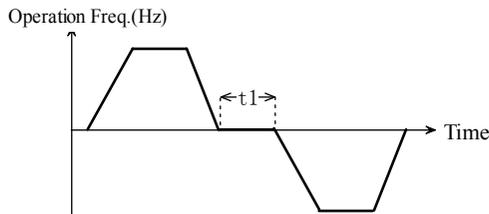

Figure. 5-2-2 FWD/REV switching time
- ◆ The switching time is the transition time at zero frequency when the inverter switching its running direction as shown in Figure. 5-2-2 as  $t_1$ .